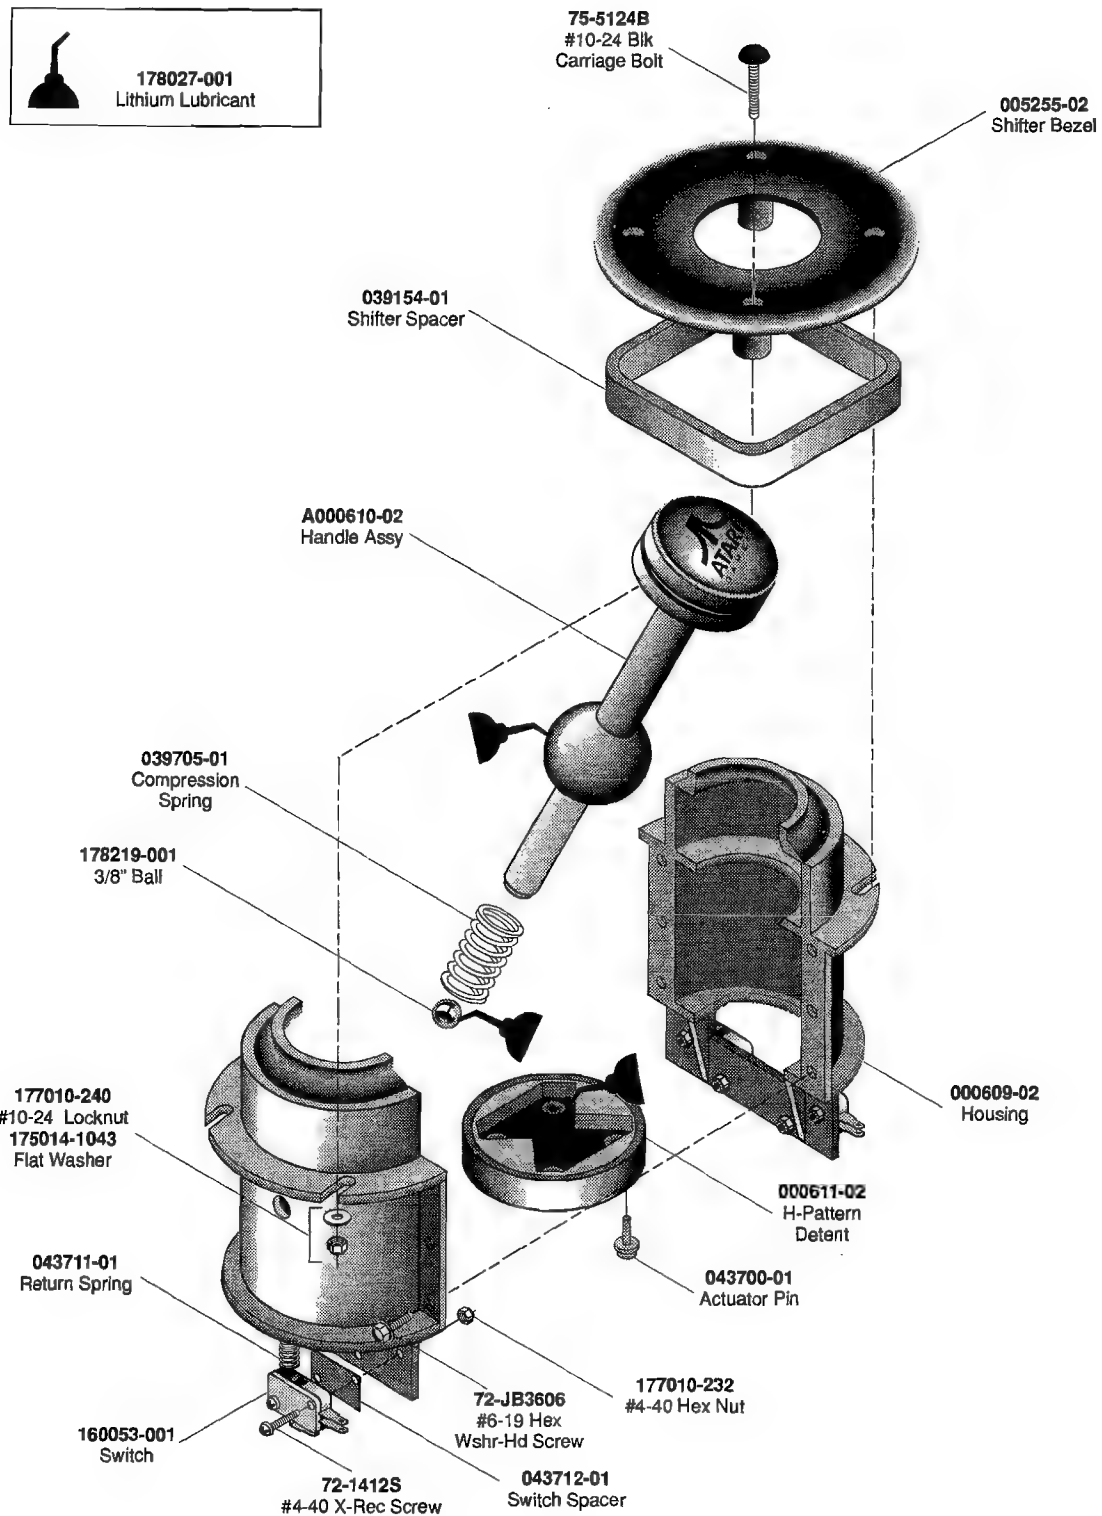

Figure 3-7 Maintaining the Shifter Assembly
3. Remove the six screws that hold the two halves of the shifter case together. See Figure 3-7. Carefully pull apart the case. The ball bearing can fly out since it is under compression. The spring will pop out too.
If the connections are correct and tight, turn off the power. Remove the four nuts and washers that hold the shifter, shifter spacer and bezel on the dashboard. See Figure 3-7. Take out the shifter, spacer and bezel.